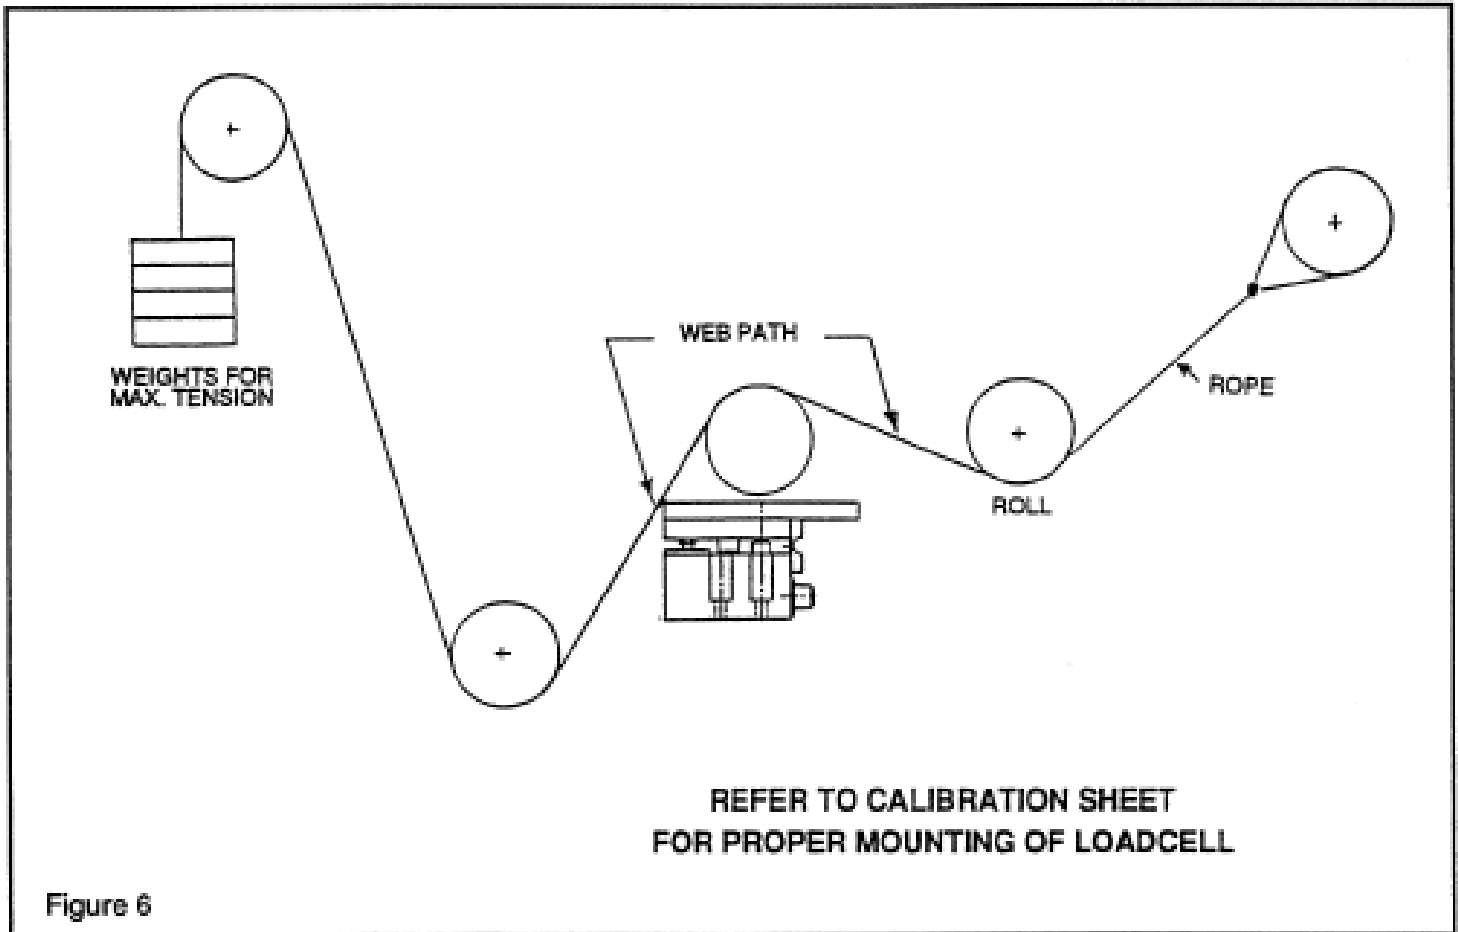

Figure 6
- With one end of the rope secured, hang a known weight, equally over the roll so that the total tension is equal to the maximum strip tension specified on the calibration sheet, at the other end. (See Figure 6)